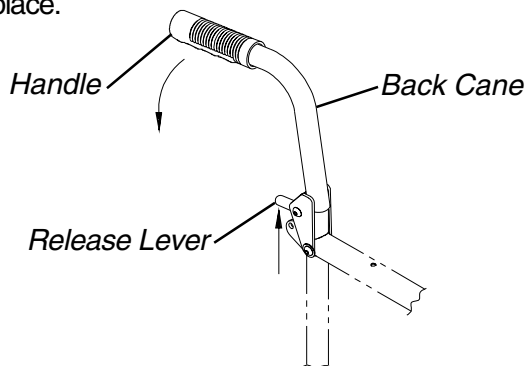

FIGURE 1 - FOLD DOWN BACK - TRACER TRANSPORT ONLY
**FOLD DOWN BACK - TRACER TRANSPORT ONLY (FIGURE 1)**
1. Lift up on the two (2) release levers on the back canes.